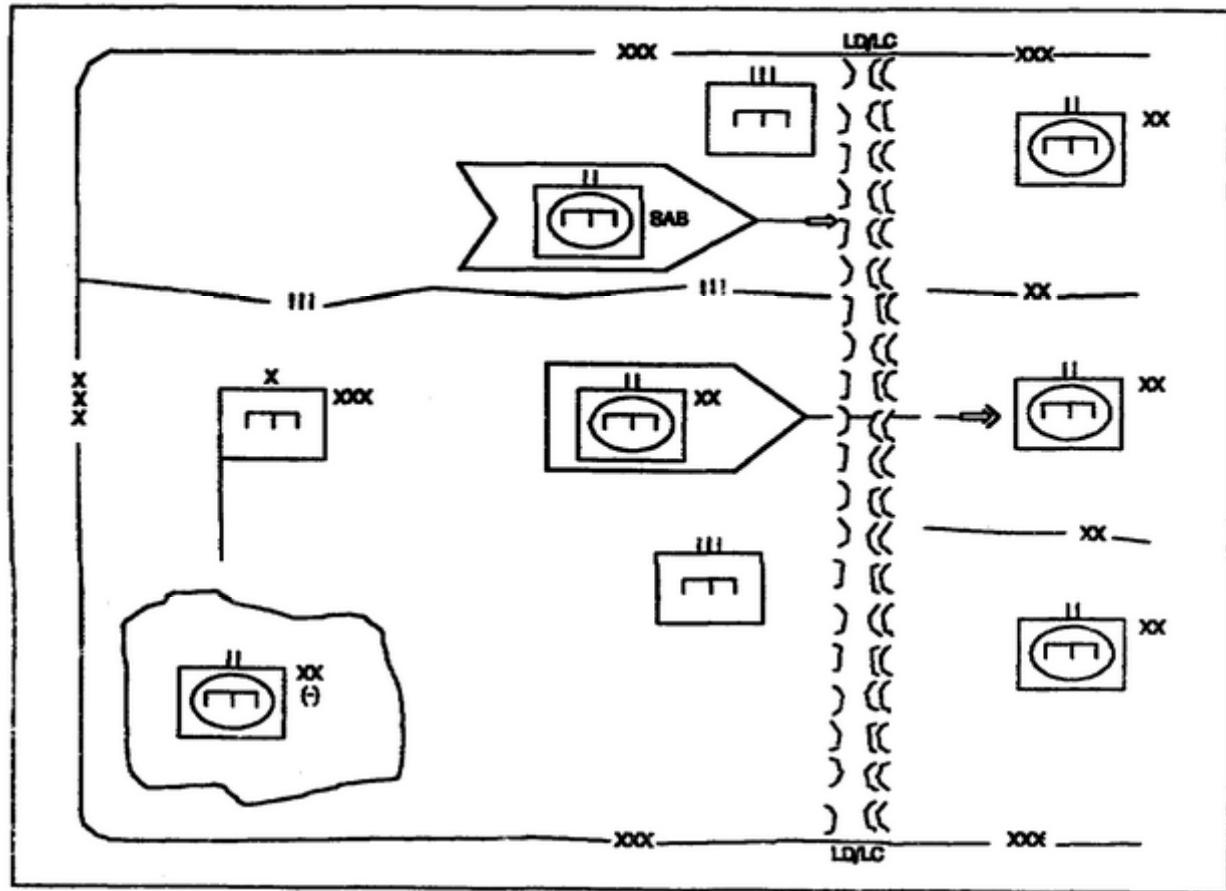

Figure 2-4. Corps engineer laydown (offensive scenario).
- (1) The corps engineer brigade aligns combat groups to support units in the corps rear and committed divisions. These groups focus on general engineering and survivability support for corps rear-area elements. The engineer brigade assigns the area of responsibility to engineer groups in the corps rear. The groups conduct mobility, countermobility, survivability, and general engineering tasks for corps units within their assigned areas. They provide subordinate units to the division engineers in armored divisions as required and can maintain supply routes to BSAs on a task-by-task basis. Their bridge and CSE units operate as far forward as necessary.
(2) Figure 2-4 shows an example of an engineer group employed to support a corps offensive operation. The main effort is the center division with supporting attacks by the northern and southern divisions. One division follows in the center and assumes the main attack on order, and one division is the reserve and plans movement along routes behind the southern attacking division. A separate armored brigade follows and supports the northern attacking division. The organization of this brigade is similar to that of the division engineer battalion.